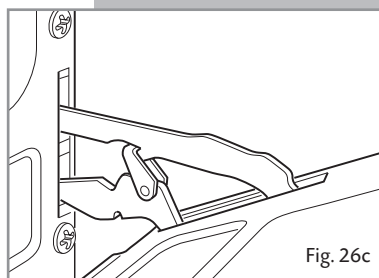

Fig. 26c
- Lift the oven door slightly. The notch on the bottom of the hinge will disengage (fig. 26c).